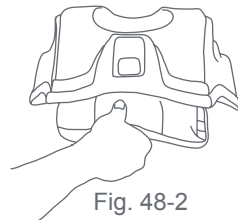

Fig. 48-3
- If the Seat Angle Indicator shows ANY red, the Safety Seat is either **too upright or too reclined**. If the seat is too upright, extend the foot one position at a time just until no red shows. To extend the foot of the base, pull downward on the hand hold as shown in Fig. 48-2 while holding against the base. To retract the foot, press inward on the lock button as shown in Fig. 48-3 and push upward on the foot. Be careful not to pinch your finger as the foot retracts. Check the level indicator to see if the seat is now level.